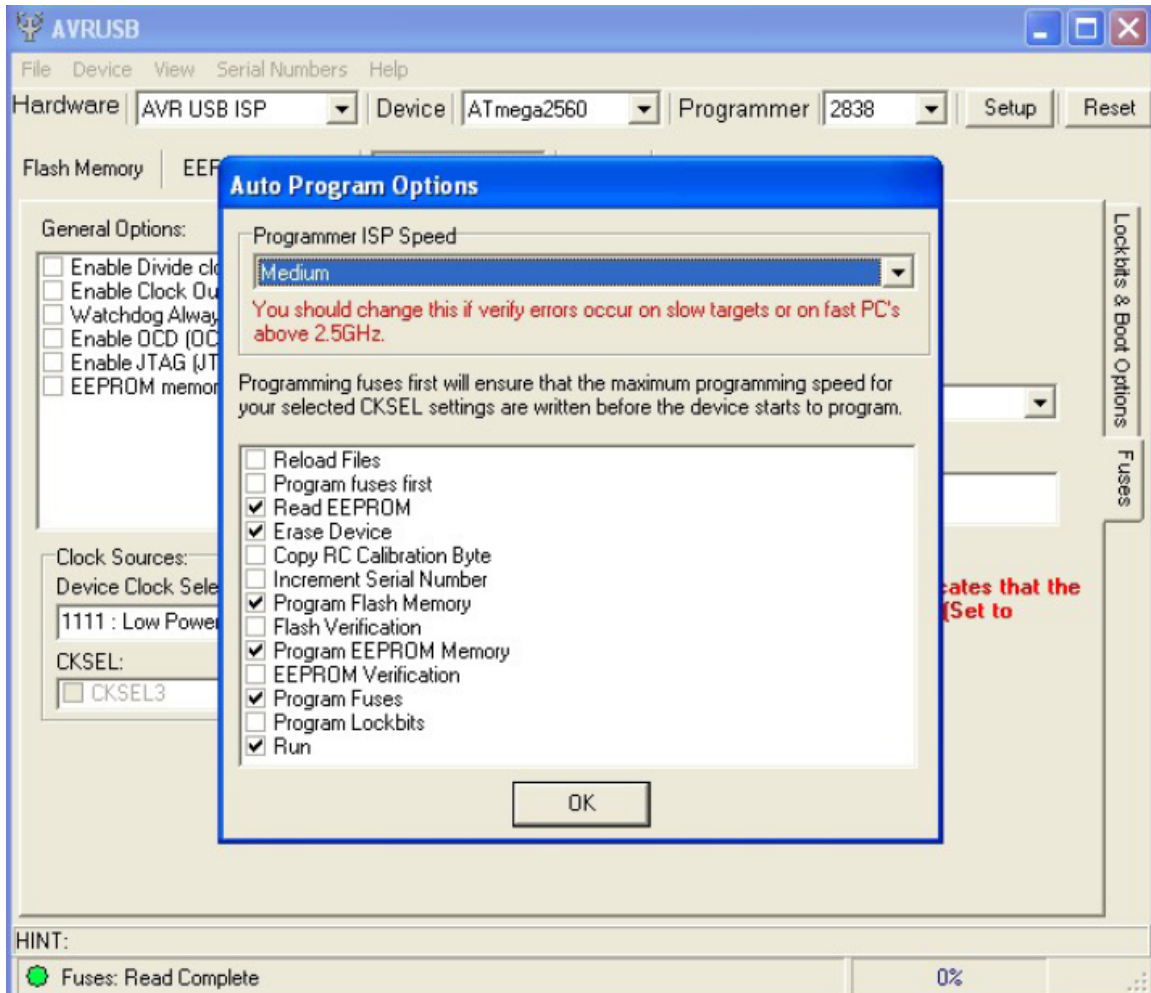

Figure 12
11. This will open the Auto Program Options window. See Figure 12. Select the options shown in Figure 12 then click OK to save them. Generally, when using a notebook PC, it is best to select Medium Programmer ISP Speed.
**IMPORTANT: Make sure the selected options match those shown in Figure 12. Failure to do so will cause the 225D to fail.**